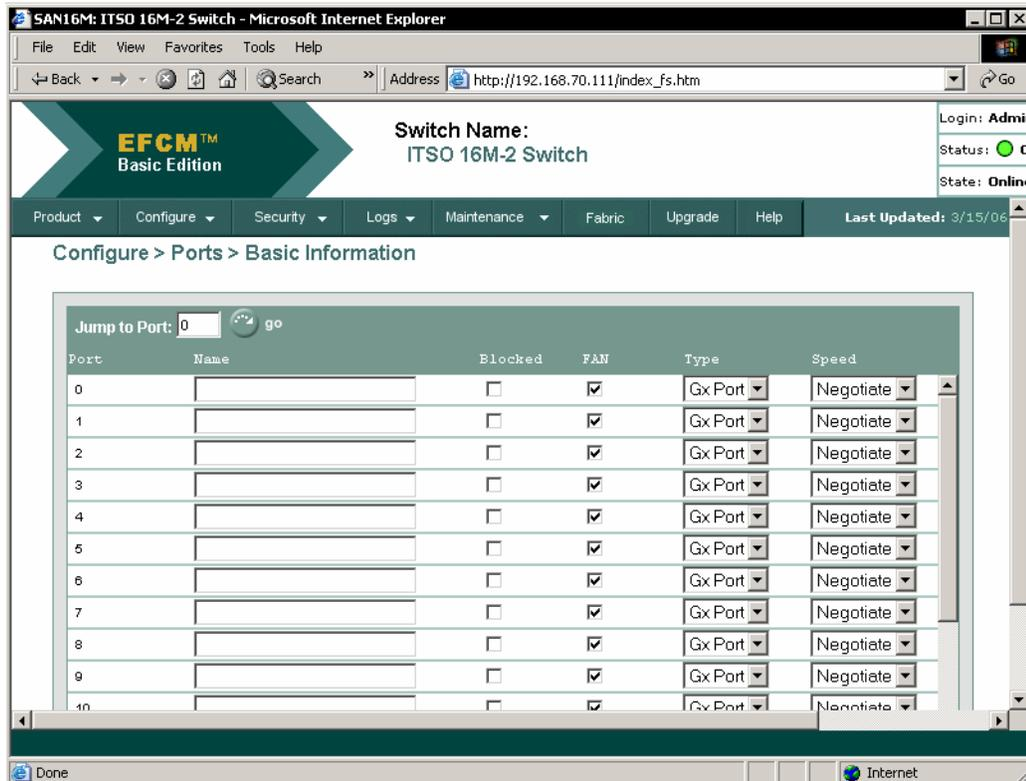

Figure 35 EFCM Basic - basic port information
1. Click **Configure**, then select **Ports** and **Basic Info** to display the Basic Information view shown in Figure 35.